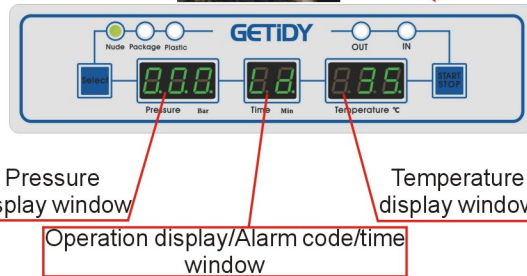

Fig.9.3-1
9.3 SJY-8 operation panel and function(Fig.9.3-1)